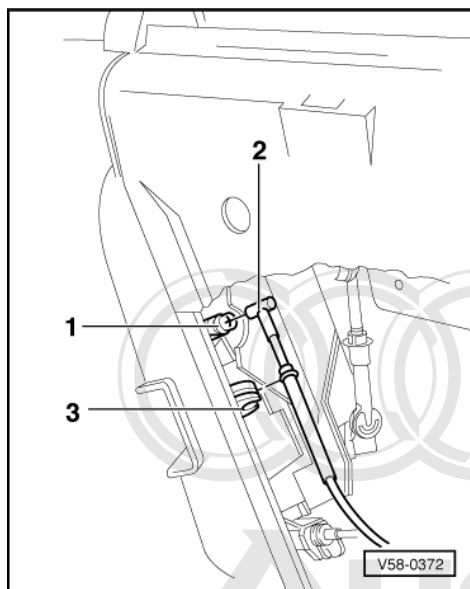

Fig.2 Bowden cable for door locking
➔ Fig.2 Removing and installing Bowden cable for door locking
- ♦ Removing and installing => Fig. 2 .